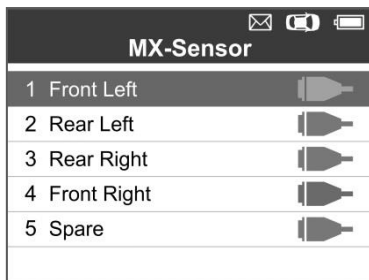
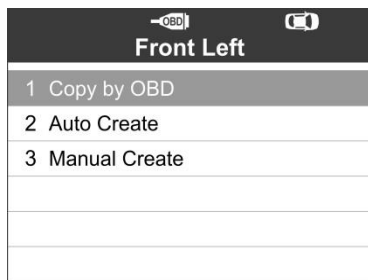

Figure 5-27
Figure 5-28
- 1) Follow the steps in *Auto Create* to select **MX-Sensor** to enter the Programming function. The OBD mark will appear on the right side of the screen (*Figure 5-27*). After selecting the specific wheel and pressing the **Y** button, the “Copy by OBD” option is available on the function menu (*Figure 5-28*).